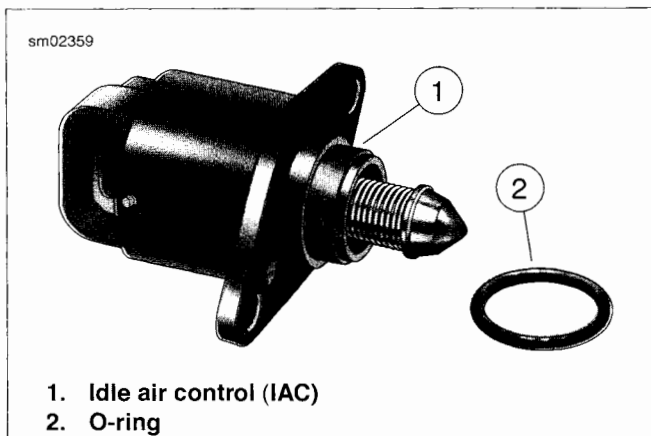

Figure 4-24. Idle Air Control
3. See Figure 4-24. Pull IAC (1) and O-ring (2) from throttle body.
1. See Figure 4-24. Apply **clean** engine oil to IAC O-ring (2). Install O-ring in counterbore of induction module.